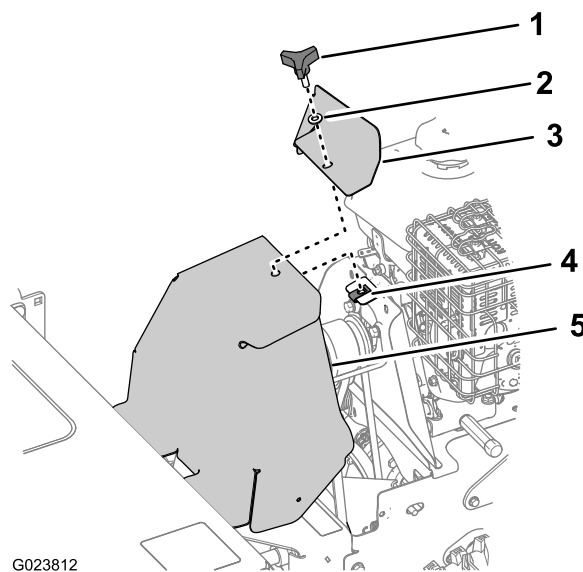

Figure 37
1. Remove the knob and washer that secures the engine cover and the belt cover to machine (Figure 37).
3. Align the belt cover and the engine cover to the machine and the plate nut (Figure 37).
4. Secure the belt cover and the engine cover to the machine with the knob and washer (Figure 37).